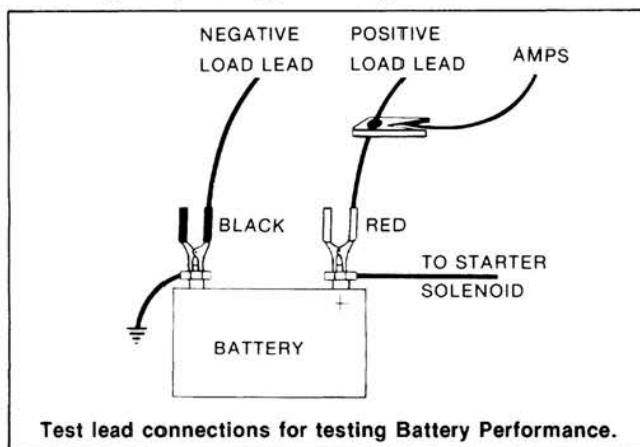

Figure 3
1. Connect the Green clamp-on AMPS PICK-UP around either **tester** load cable (disregard polarity). See Figure 3.